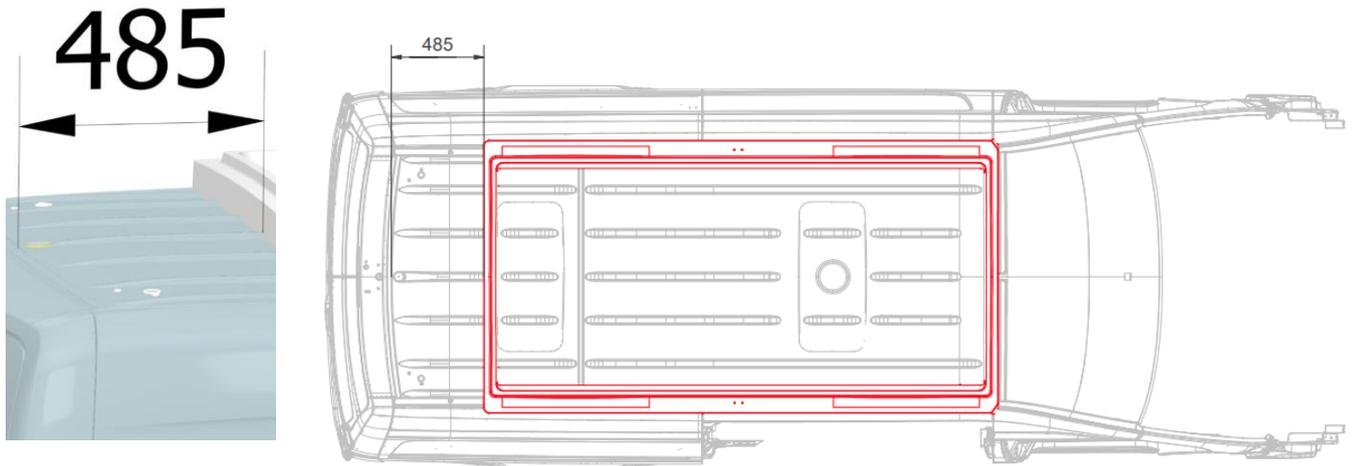

Abb. 3-3: MB Sprinter L2H2 (L = 5932 mm) [G0002136]
- With these two elevating roof variants, the frame and spoiler are already adapted to the vehicle roof (for vehicles with a length of about 6 m, see Abb. 3-3 and Abb. 3-6).